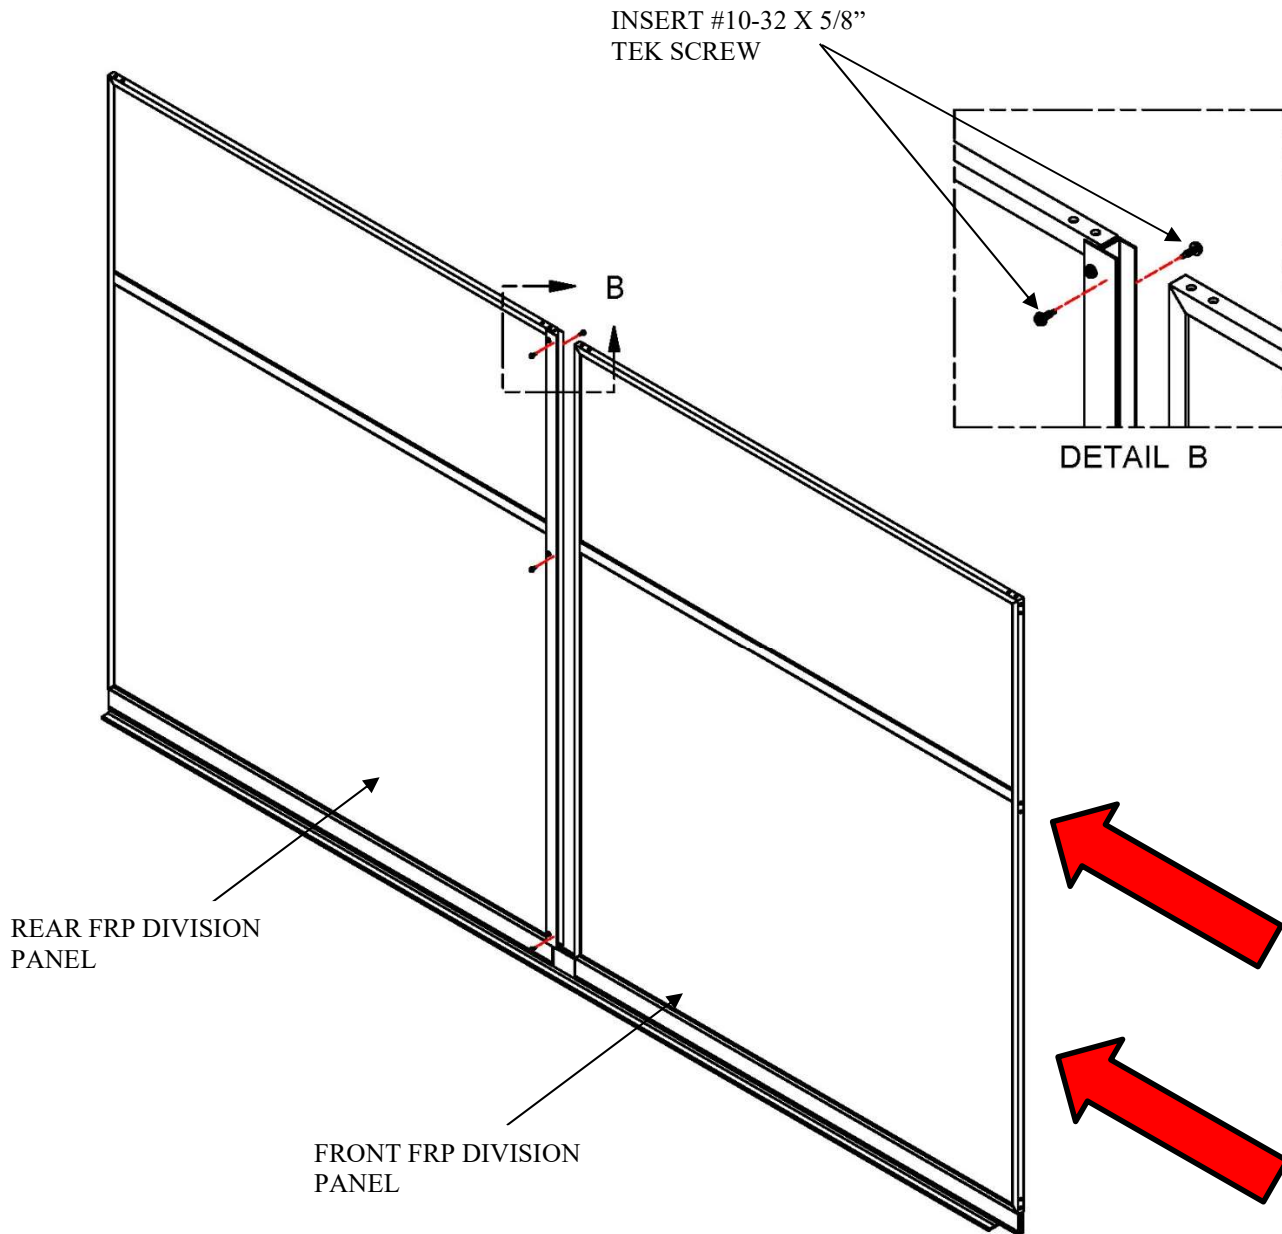

Figure 3B
- Using six of the #10-32 x 5/8" TEK screws provided, secure Panel connection H extrusion to the rear panels. (Three screws should be used for each side of the panel, one each in the top middle and bottom). See Figure 3B.